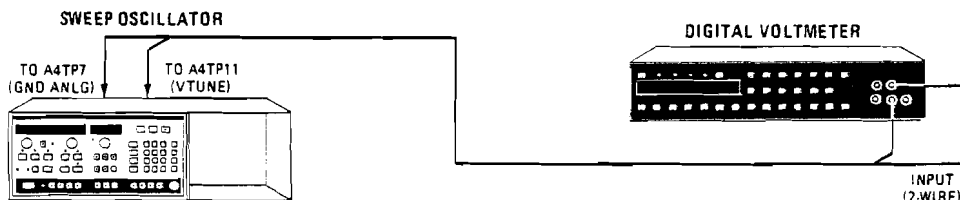

Figure 5-16. Frequency Control Adjustments Setup.
2. Position the sweep oscillator upright as shown in Figure 5-16 and remove the top cover.